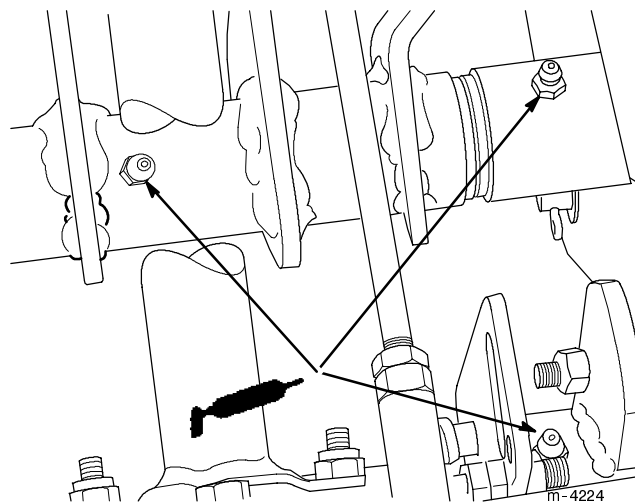

Figure 31
4. Lubricate the three grease fittings (Fig. 31).